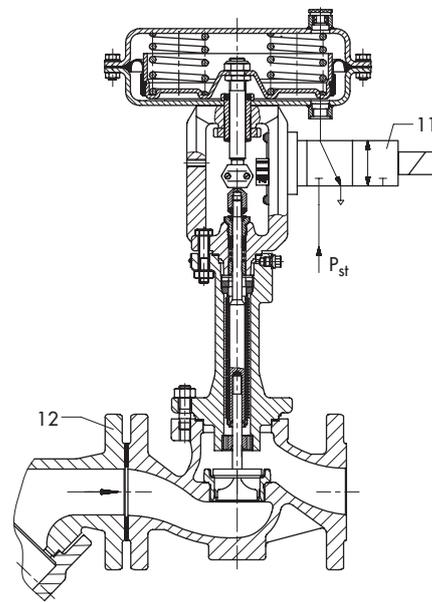
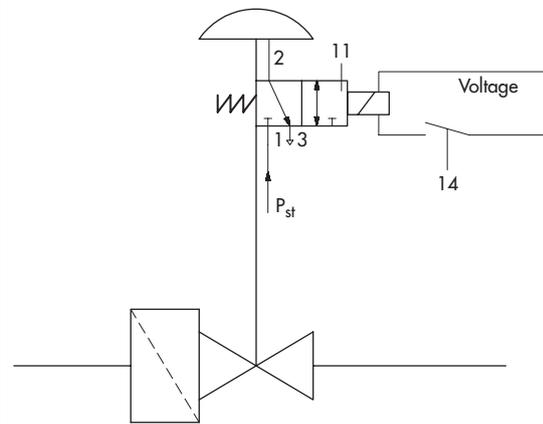
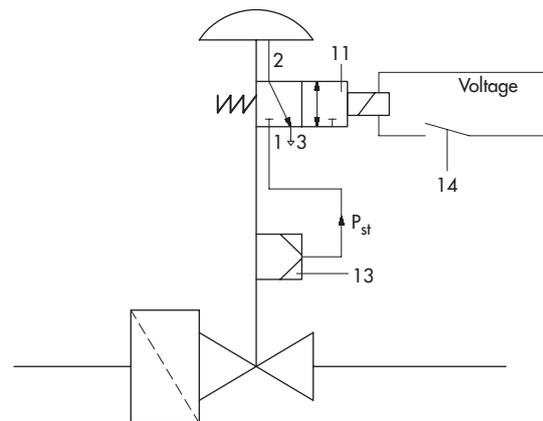

Fig. 2: Type 3241-1-Gas Pneumatic Control and Quick-acting Shut-off Valve
Fig. 3: Functional diagram showing version without positioner
Fig. 4: Functional diagram showing version with positioner
The signal pressure p_{st} is applied to the pilot valve (11) whose coil is connected to the safety interlock circuit (switch 14, Fig. 3 and Fig. 4). During operation, the coil is energized and the signal pressure p_{st} acts on the diaphragm. In the event of a malfunction, the pilot valve is activated and the pressure acting on the diaphragm is relieved, causing the control valve to close quickly.
Legend for Fig. 2 to Fig. 4